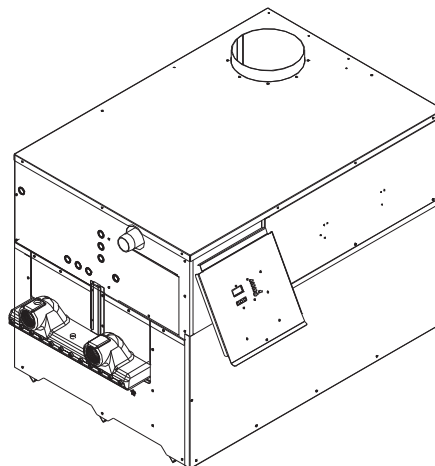

Figure 41 – Control Panel Cover
- Loosen knurled screw at the bottom of control panel cover (see Figure 41).